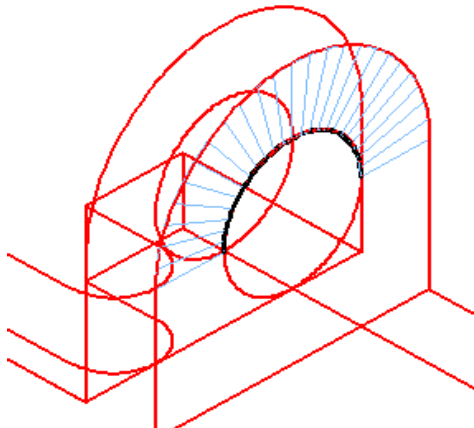

Figure Step 16
Step 16 On layer Surface, insert a ruled surface between the arcs as shown in Figure Step 16.